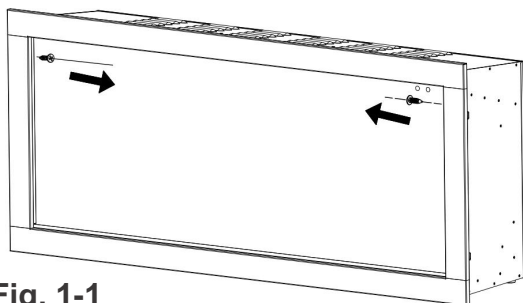

Fig. 1-1
- A. Take off the screws on both side.(Fig. 1-1)